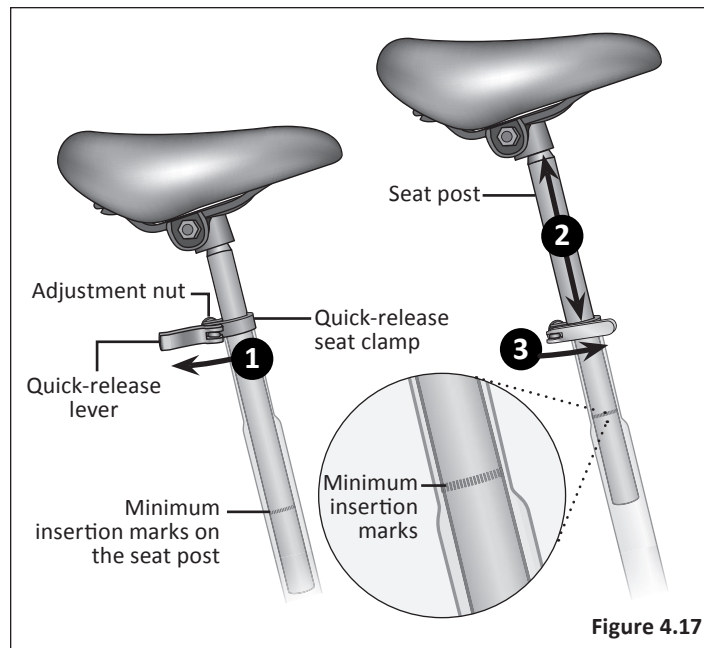

Figure 4.17
- 1 Unlock the quick-release lever. **Figure 4.17**